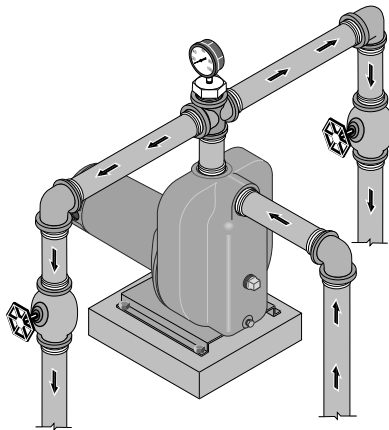

Figure 3 – Multiple Discharge
Pump discharge can be divided to supply two (2) or more sprinkler systems. A suggested multiple discharge to service is shown in Figure 3.